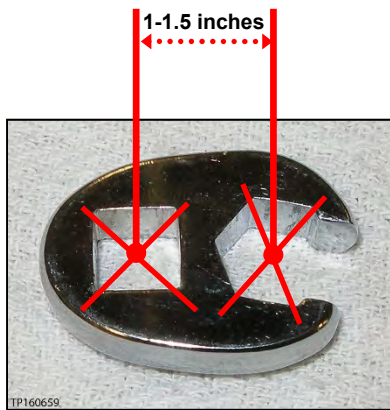

Figure 94
- The “crow’s foot” is measured from the center of the square hole to the center where the flare nut fits (see Figure 94).